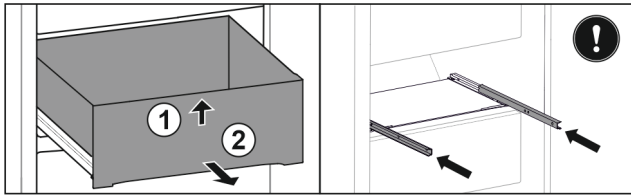

Fig. 34*
- ▶ Lift up the drawer at the front Fig. 34 (1).*
- ▶ Remove to the front Fig. 34 (2).*